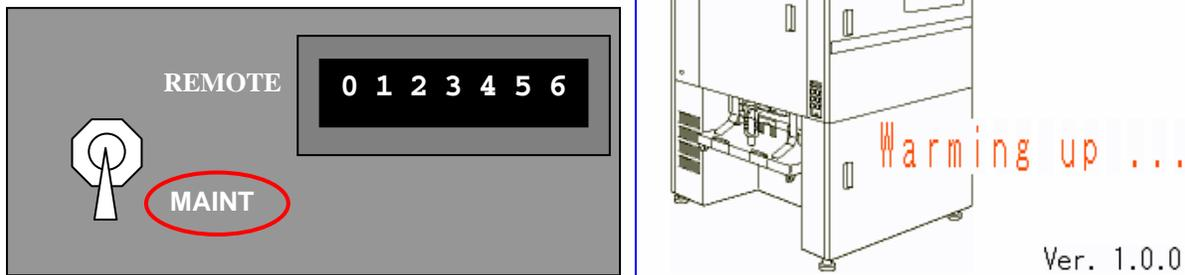

Figure 5-22
5. Confirm that the position of the panel switch located near the mechanical counter points toward **MAINT** (Figure 5-22).